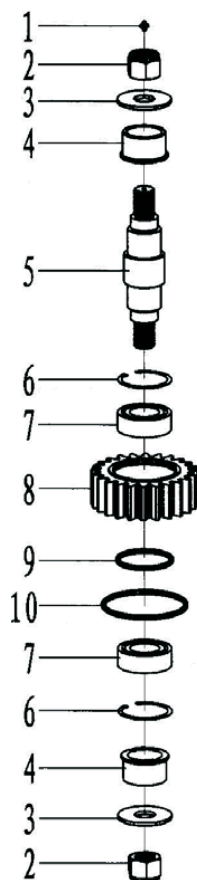

Fig.5
7.5 Assembly of small idle gear (Fig.5,Table5)